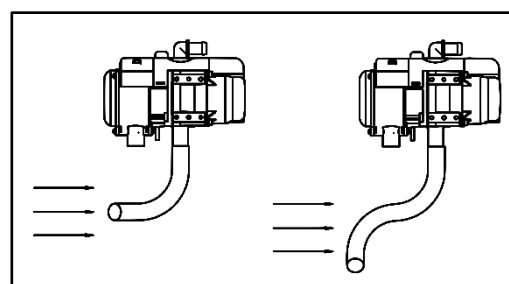

Fig. 8 – Position of air intake/exhaust pipe
When laying the air intake pipe, avoid sharp bends and do not obstruct the opening of the air intake pipe with foreign objects. Make sure the opening is pointing downwards (see Fig. 8).
The outlet of the exhaust pipe must be installed **pointing downwards (Fig. 8)**, and in such a position that would prevent the clogging or invasion of snow and dirt, and also provide a free drain for any water that gets into it.
**Do not place the output opening of the exhaust pipe in front of the incoming airflow of the moving vehicle or vessel (see Fig. 8).**